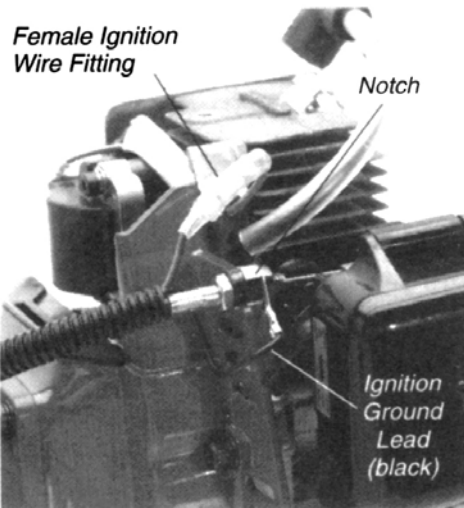

Figure 8
3. Turn the cable adjuster nuts sufficiently for the throttle cable to fit in the notch on the fan cover. Make sure the ignition ground lead is located on the rearward side of the notch. Then, connect the male fitting of the red ignition wire into the female fitting of the red wire attached to the engine. See Figure 8